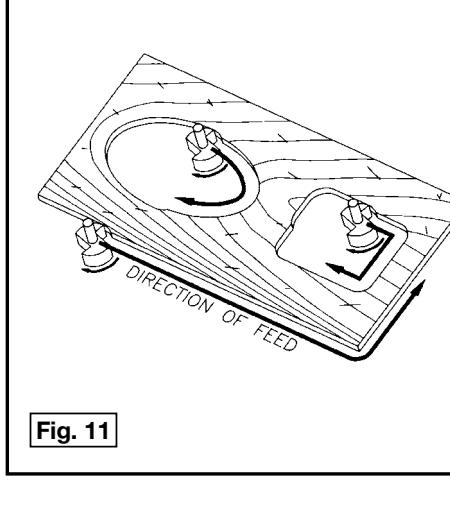

Fig. 11
- Avoid Climb-Cutting (cutting in direction opposite that shown in Fig. 11). Climb-Cutting increases the chance for loss of control resulting in possible injury. When "Climb-Cutting" is required (backing around a corner), exercise extreme caution to maintain control of router. Make smaller cuts and remove minimal material with each pass.